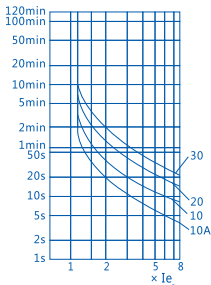

Figure 1 Time-current Characteristic Curve of the Protector
2.1.2 For the time-current characteristic curve of the protector, please refer to Figure 1.